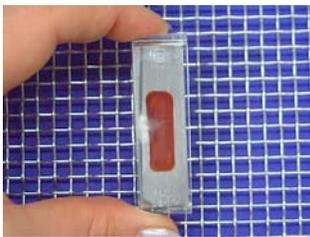

Figure 7 TOSI™ (Test Object Surgical Instrument)
The TOSI (Test Object Surgical Instruments; *see Figure 7*) has three components: blood soil, a stainless steel plate, and a clear plastic holder. The soil is composed of blood components mixed and applied in a precise manufacturing process, which provides a consistent challenge to the effectiveness of the sonic cleaner. The stainless steel plate is “scratched” or grooved, replicating the uneven surface of surgical instruments. The plate is mounted in the plastic holder at an angle, providing a gradually more difficult cleaning test from one end to the other (14).